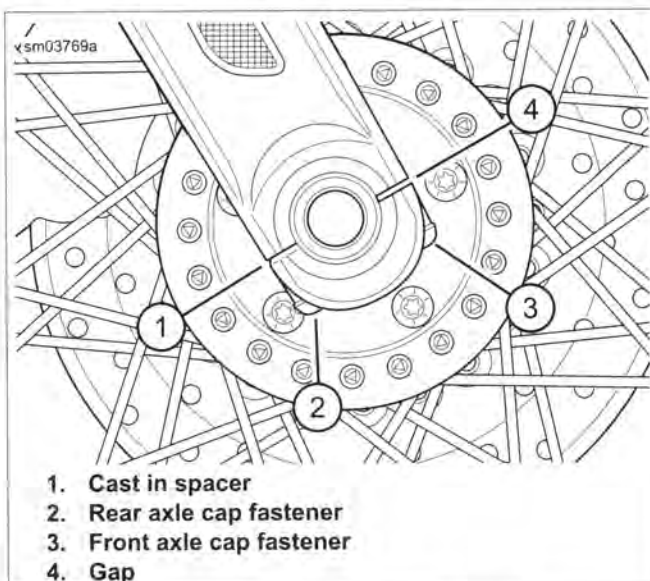

Figure 2-11. Axle Cap Installation
- See Figure 2-11. Install slider cap with cast-in spacer (1) toward the rear of the vehicle on all models except FLD. Leave fasteners loose.
- All but FLD:** See Figure 2-11. Tighten rear axle cap fastener (2) to 132-180 **in-lbs** (14.9-20.3 Nm). Then tighten front axle cap fastener (3) to 132-180 **in-lbs** (14.9-20.3 Nm).